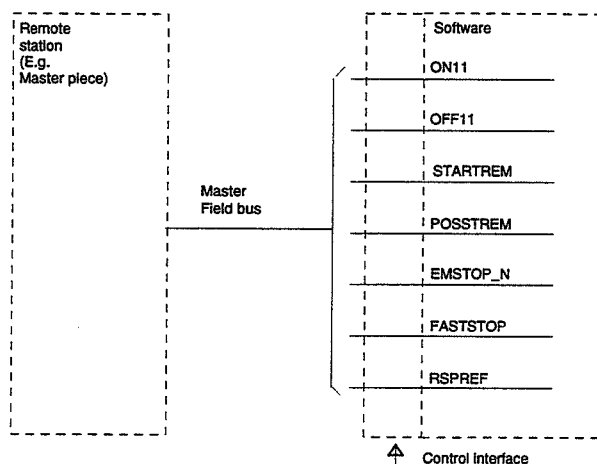

Fig. 2 Remote operating station
- a remote station e.g. central control room or higher level computer system. The communication between the remote station and the drive control is normally done with the master field bus, see fig. 2.